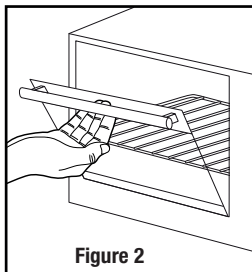

Figure 2
**Step 2:** Pull down the oven door carefully (See Figure 2).